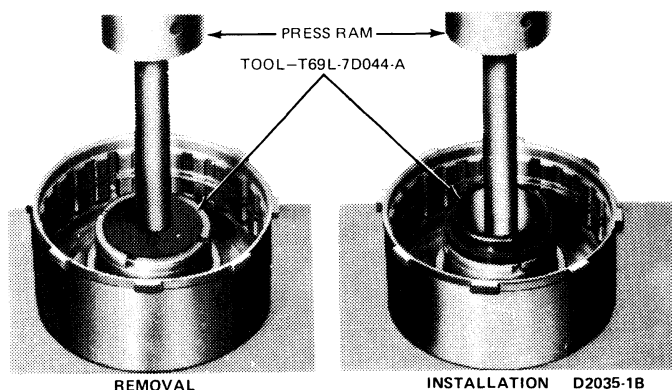

FIG. 40 Replacing Reverse-High Clutch Rear Bushing
- Remove the front and rear bushings from the clutch drum if they are worn or damaged. To remove the front bushing, use a cape chisel and cut along the bushing seam until the chisel breaks through the bushing wall. Pry the loose ends of the bushing up with an awl and remove the bushing. To remove the rear bushing, use the tool shown in Fig. 40, and press the bushing from the drum.
- If the clutch drum bushings were removed, position the drum in a press and press new bushings into the drum with the tools shown in (Fig. 40 or 41).